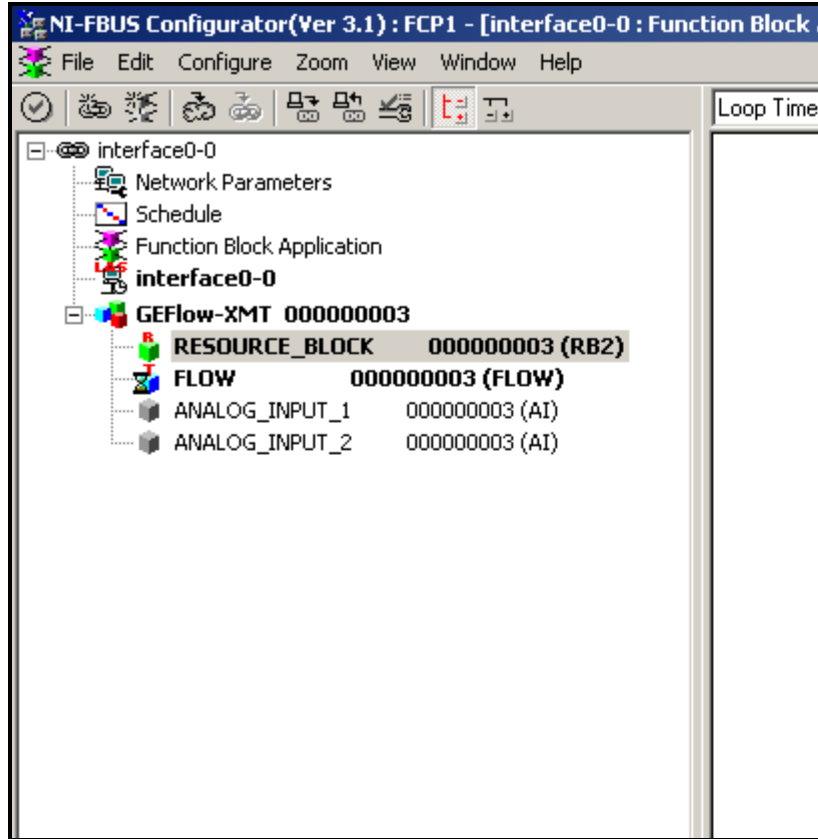

Figure 40: Configuration Utility Setup Example
Figure 40 below shows the Configuration Utility with a flowmeter on the network (Panametrics Flow-XMT).
1. Double click on the AI block for which you wish to set the units (ANALOG_INPUT_1 or ANALOG_INPUT_2 in the tree under GEFLOW-XMT; see Figure 40 on page 110).
1. Double click on the FLOW transducer block (in the tree under GEFlow-XMT; see Figure 40 on page 110).